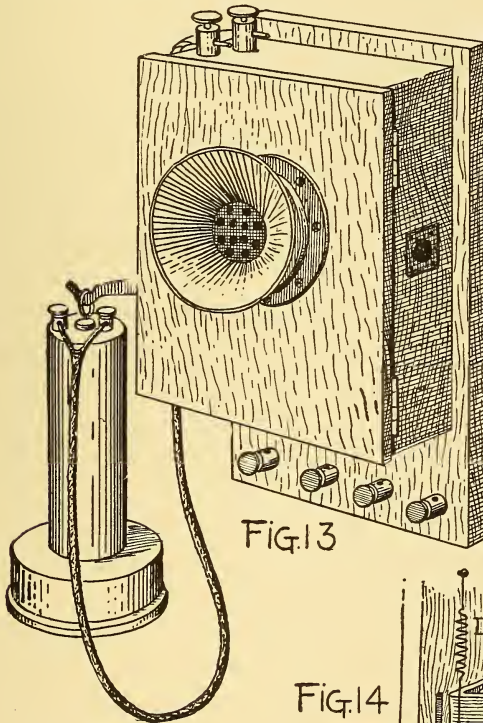

FIG. 13
seven inches high made of pine or white-wood half an inch in thickness (see Fig. 13).
At the left side of the box cut a slot through the wood, so that a lever and hook may project and work up and down. The end of this lever is provided with a hook on which a receiver may be hung, as shown in Fig. 13, and the
and another one is passed under the screw-head which holds the other spring (D) to the box. When the button (B) is pushed in, it brings spring C into contact with D, and the circuit is closed. Directly the finger is removed from B the spring (C) pushes it out and breaks the circuit. This button is used only in connection with the call-bells, and has nothing to do with the telephone. The wires leading from the interior of the box pass through the wall-plate and along in grooves to the foot of the binding-posts, which are arranged below the box on the back-board, as shown in Fig. 13.
This system may be installed in the box shown in Fig. 13, the flexible cord containing two wires being attached to the binding-posts at the top of the box and to the posts at the end of the receiver. This system differs from the one shown in Fig. 6 only in the addition of receivers T and T 2, and in the substitution of the automatic lever-switches (L S and L S 2) for the plain switches (S and S 2) in Fig. 6. When the line is "quiet" the receiver (R) should be hanging on the lever-switch (L S), which rests on the contact-plate (A). At the opposite side of the line the receiver (R 2) hangs on the